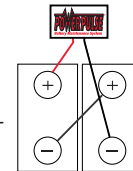
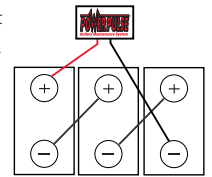

Fig. 2
Fig. 4
For two (2) 6-volt batteries connected in series to equal 12-volts, follow steps 1 through 2 above. On step 3 connect the positive wire to the positive terminal on Battery 1 and the negative wire to the negative terminal on Battery 2 (see Fig. 2).
PowerPulse section. On step 3 connect the positive wire to the positive terminal on Battery 1 and the negative wire to the negative terminal on the last battery in the set (see Fig. 2 for an example of how a 24-Volt PowerPulse is installed on two (2) 12 volt batteries and Fig. 4 for a 36-volt PowerPulse on three (3) 12-volt batteries).